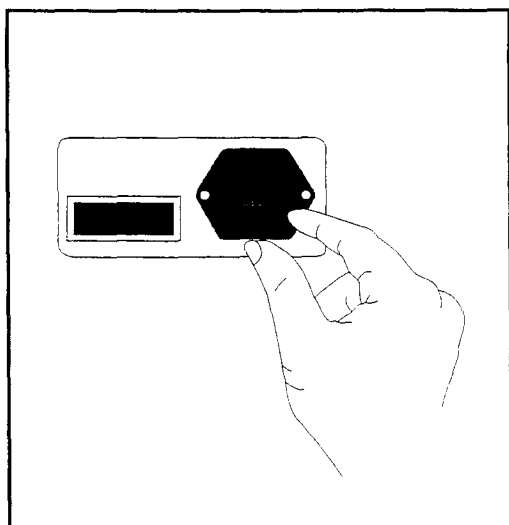
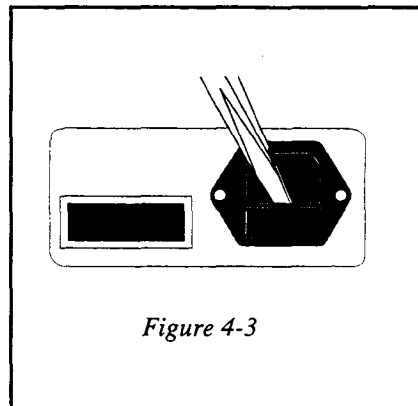

Figure 4-1
Figure 4-3
- Step 1 Remove the fuse holder by pushing in on the small tabs on the sides of the holder as shown in Figure 4-1. (Or pushing down from the top. See Figure 4-3.)
- Step 1 Use a flatblade screwdriver to pry the fuse holder out of the retainer. See Figure 4.3.